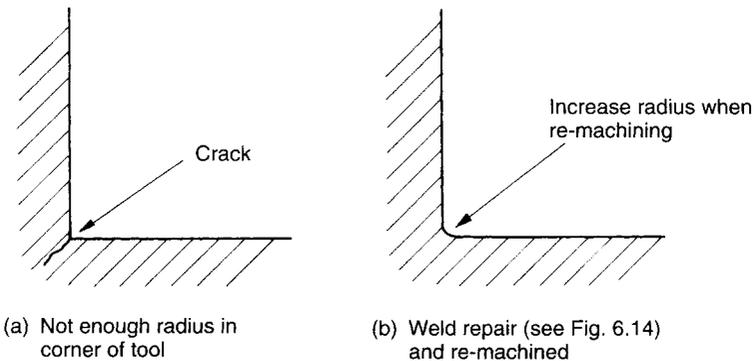

Fig. 6.13
**Solution 6** Complete your weld repair and increase the size of radius when re-machining; see Fig. 6.13.